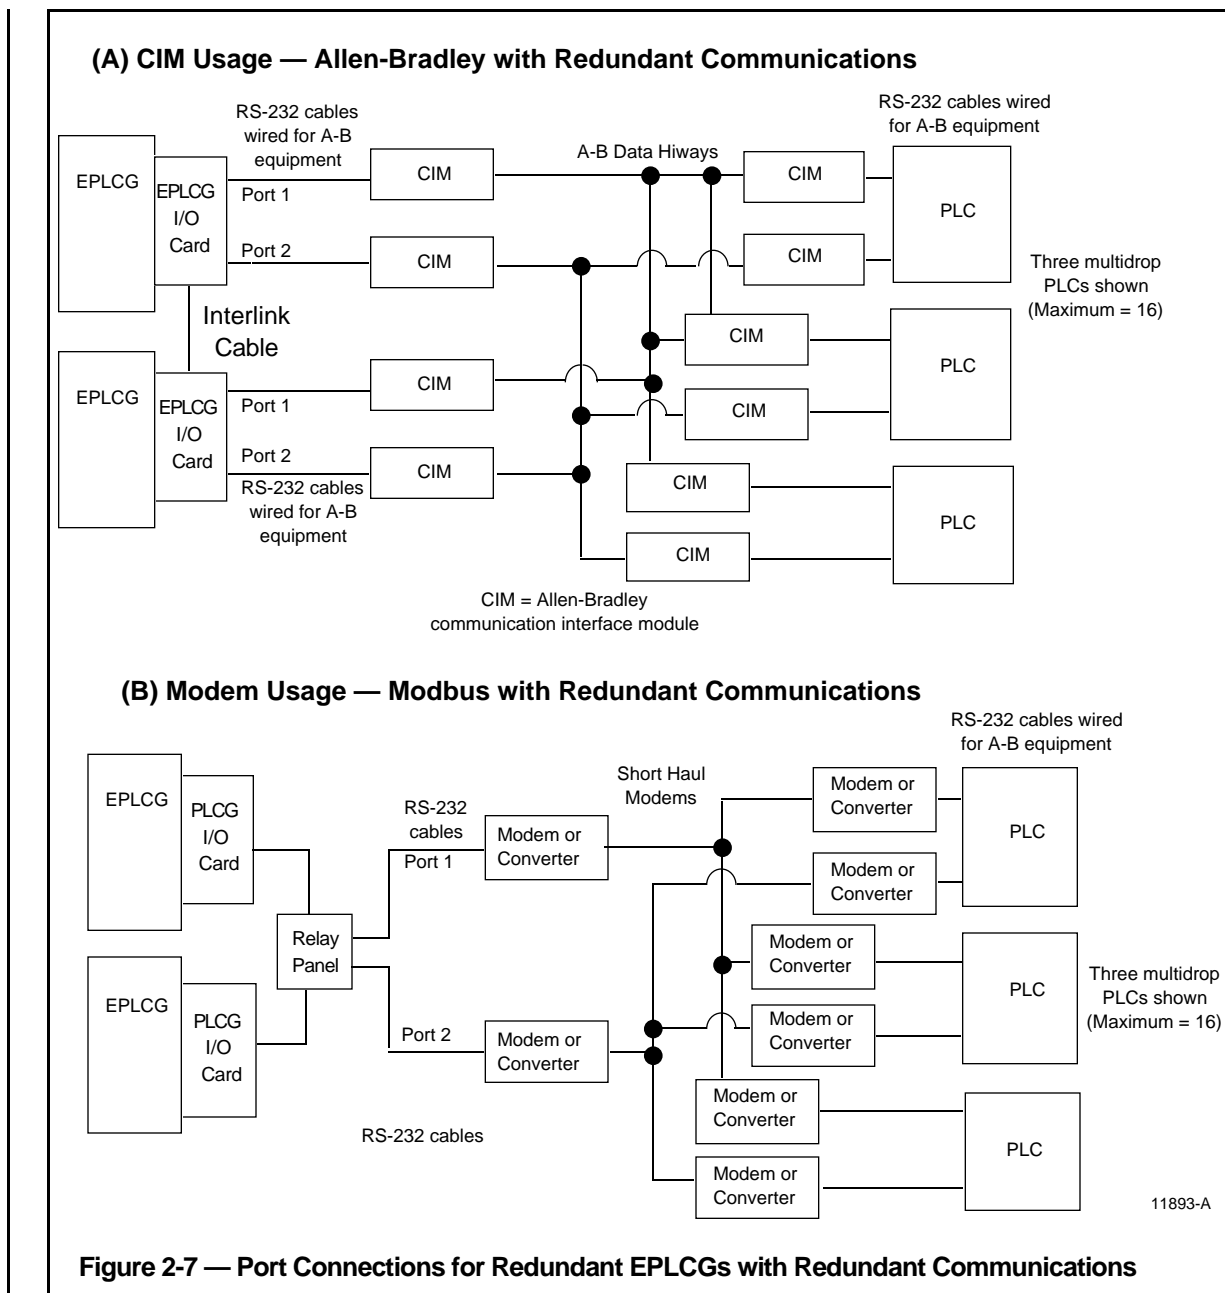

Figure 2-7 (B) illustrates use of the PLCG I/O card and relay panel with Honeywell or Modbus protocol and redundant communications.
Figure 2-7 illustrates typical port connections for redundant EPLCGs for use with the redundant communications feature. In (A), redundant communications are specifically for use with Allen-Bradley PLCs, connected by Allen-Bradley Communication Interface Modules, and provide network cable redundancy.